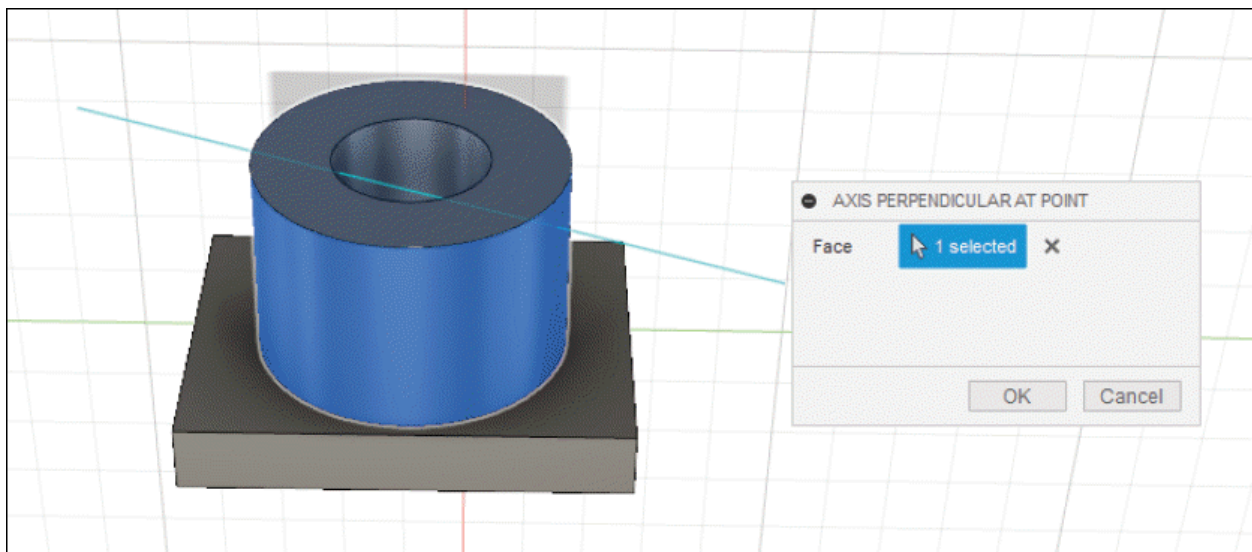

Figure-107. Preview of axis perpendicular at point
- After selecting the point on any face, preview of axis will be displayed; refer to Figure-107. Click on the **OK** button from the dialog box to create axis.